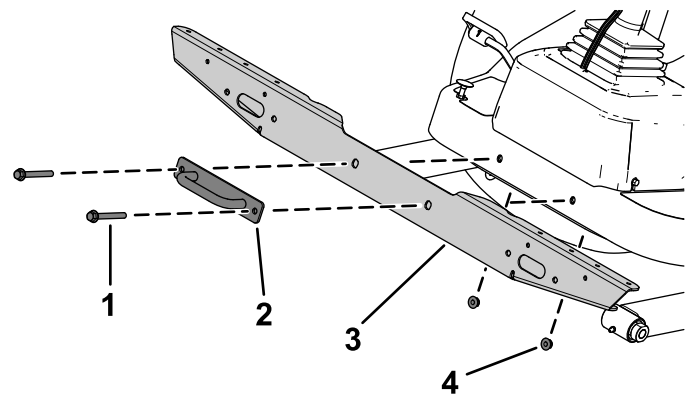

Figure 12
- 2. Secure the light cross mount to the platform using the previously removed bolts, nuts, and tie-down bracket (Figure 12).